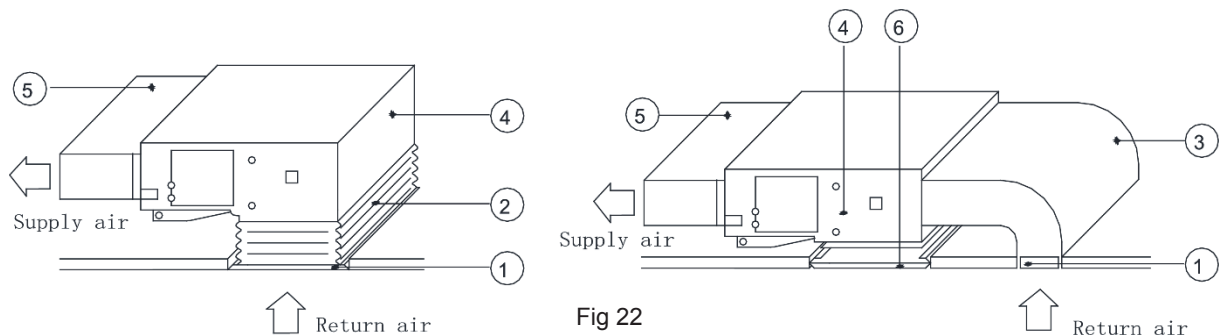

Fig 22
(2) If the bottom return air is desired, just change the place of the rectangular flange and the return air cover plate.
(3) Connect one end of the return air duct to the return air outlet of the unit by rivets and the other to the return air louver. For the sake of the convenience to freely adjust the height, a cutting of canvas duct will be helpful, which can be reinforced and folded by 8# iron wire.
(4) More noise is likely to be produced in the bottom return air mode than the rear return air mode, so it is suggestive to install a silencer and a static pressure box to minimize the noise.
(5) The installation method can be chosen with considering the conditions of the building and maintenance etc., as shown in Fig 22.